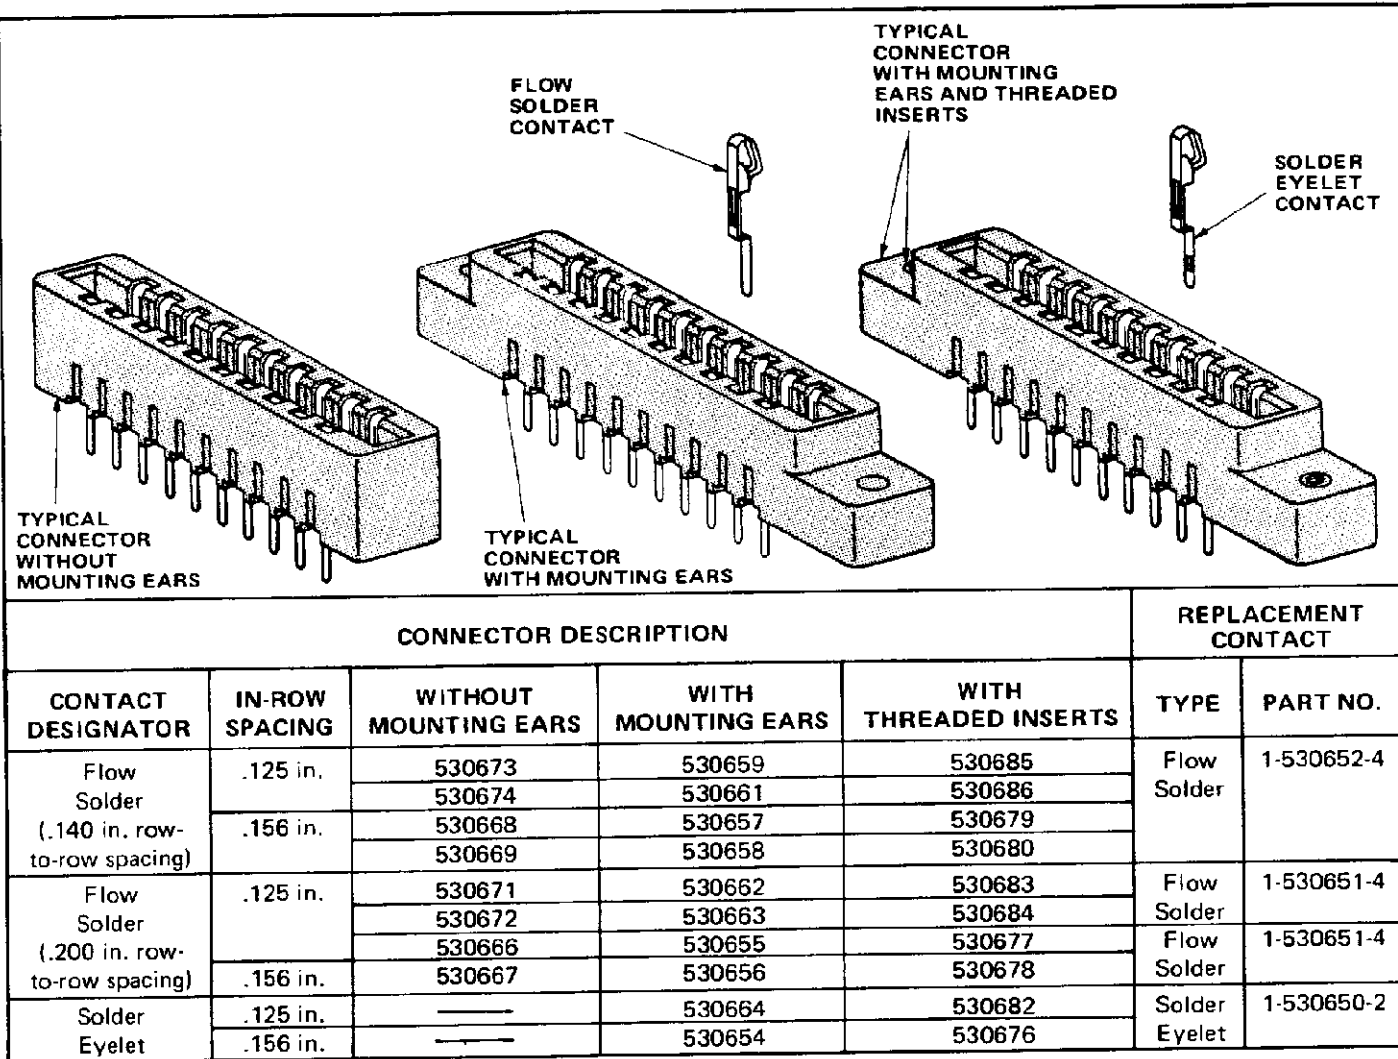

FIGURE 1
This instruction sheet (IS) covers the removal and replacement of contacts in the AMP Low Profile Edge Connectors listed in Figure 1.
These connectors consist of low profile housings with factory installed bifurcated spring contacts. The connectors designed for printed circuit (pc) board applications have row-to-row contact centerline spacing of either .140 or .200 in., and flow solder contacts installed. The connectors designed for wiring applications have solder eyelet contacts installed. The base part numbers for all connectors are listed in the chart in Figure 1.
All housings have dual contact positions, with in-row contact centerline spacing of either .125 or .156 in. They are molded with or without mounting ears. Those with mounting ears are available with threaded inserts installed. See Figure 1.
1. Select the applicable contact using the selection chart in Figure 1.